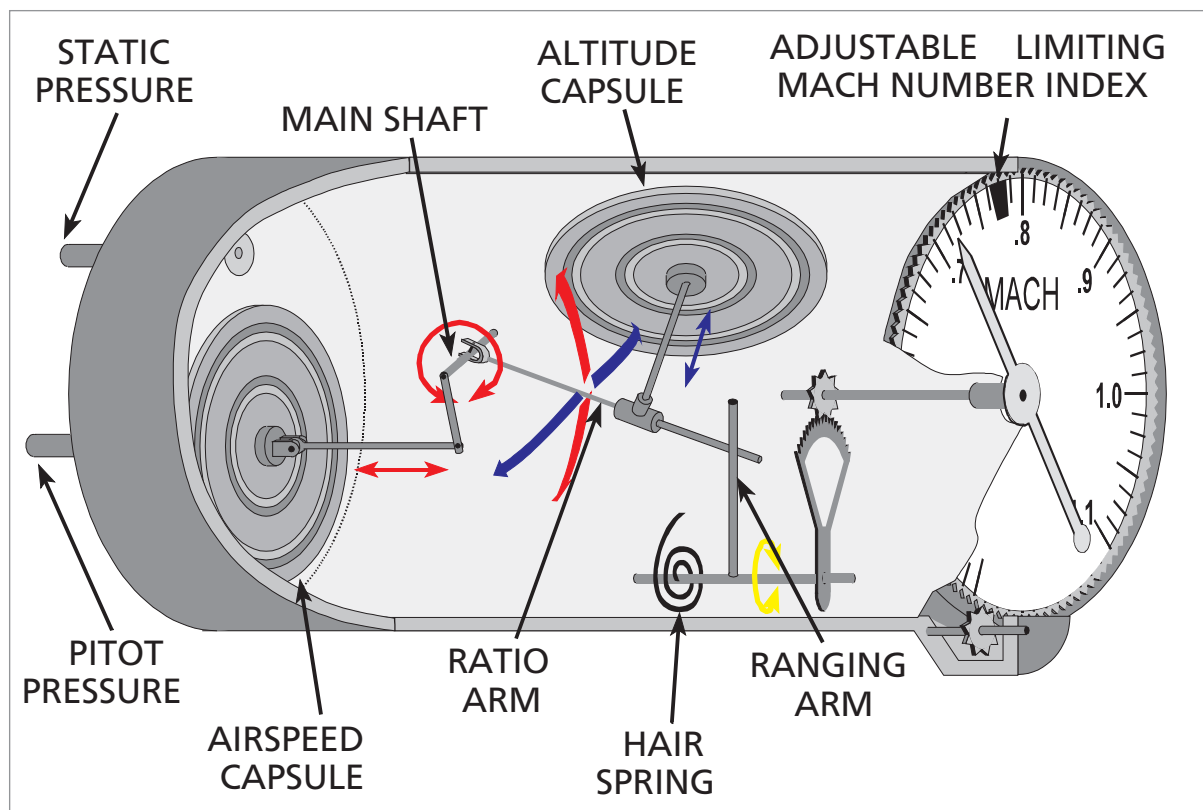

Figure 7.1 The Machmeter
*Figure 7.1* shows the parts of a Machmeter. It consists of a simple aneroid **altitude capsule** and an **airspeed capsule** which are connected at the ratio arm.